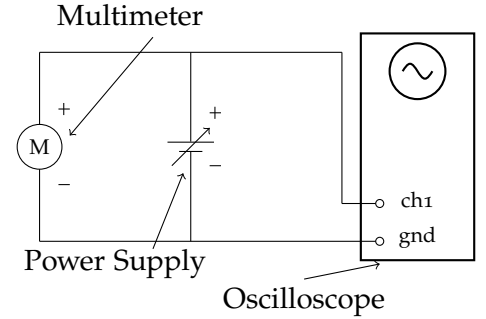

Figure 3.2: Measuring DC power supply with oscilloscope and multimeter.
A multimeter is a good choice for measuring a steady voltage, such as that across the terminals of a power supply, but an oscilloscope can also be used, provided that great accuracy is not required. It is instructive to measure the terminal voltage of a power supply with both a multimeter and an oscilloscope and compare results as in Figure 3.2.
1. Set up the circuit shown in Figure 3.2. Make sure the power supply is initially set to zero volts (voltage knob fully counter-clockwise) and the current knob is turned fully clockwise. Turn on both the oscilloscope and the multimeter. Set up the multimeter to measure DC voltages. Select ranges on both the scope and multimeter for a maximum of approximately 10 to 20 volts. Set the scope to DC coupling so that DC levels can be observed. For at least four different DC voltage levels, measure the output of the power supply with both the multimeter and the oscilloscope.